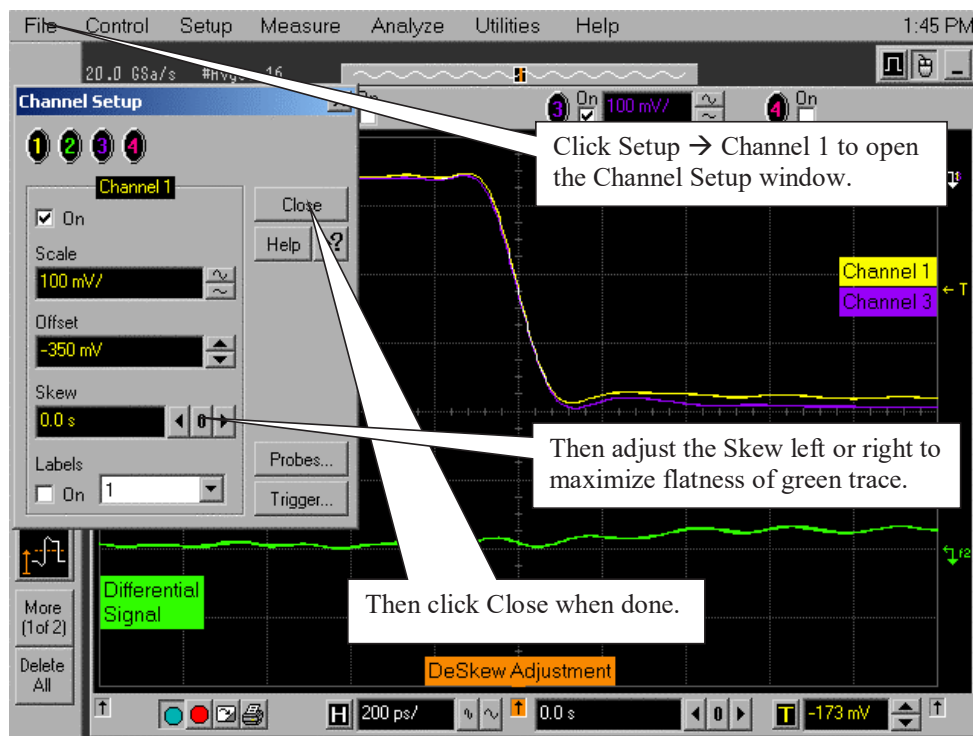

Figure 23 De-skewing Procedure.
- 3 Referring to Figure 23, perform the following steps to de-skew the channels: